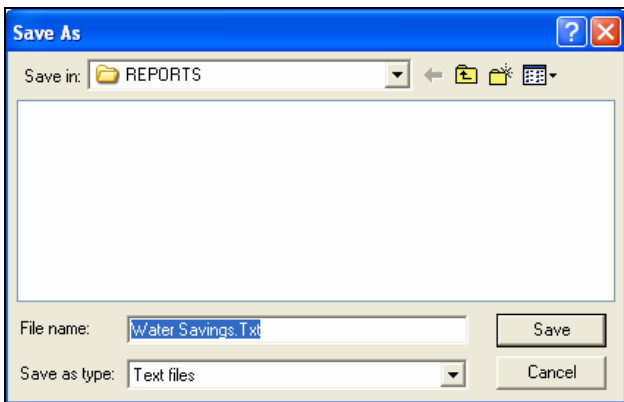

Figure 6
9. Next select the location that you want the report data to be stored in by clicking on the **Browse** button to the right of the location box (Figure 6).